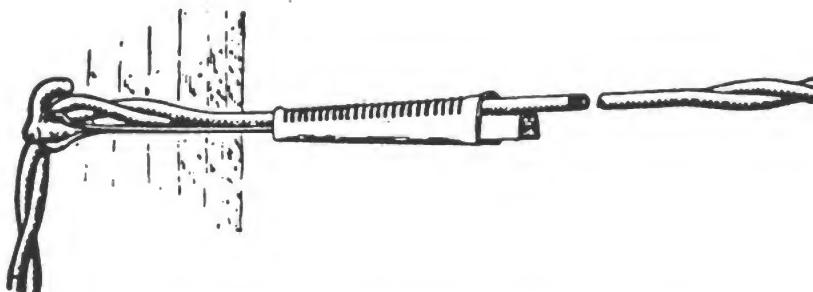
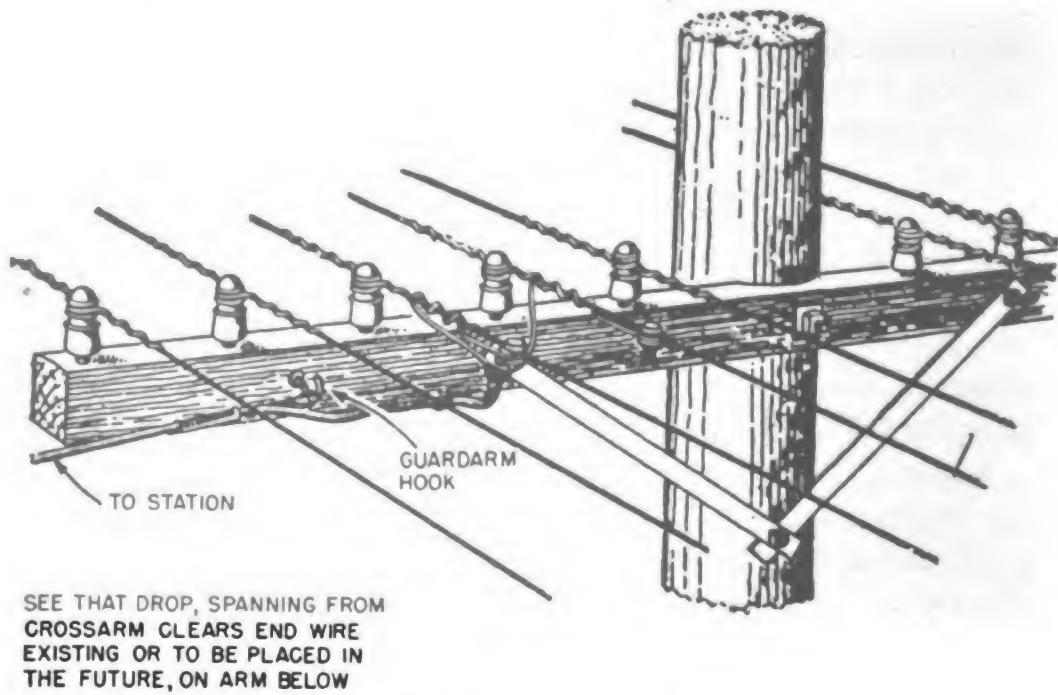
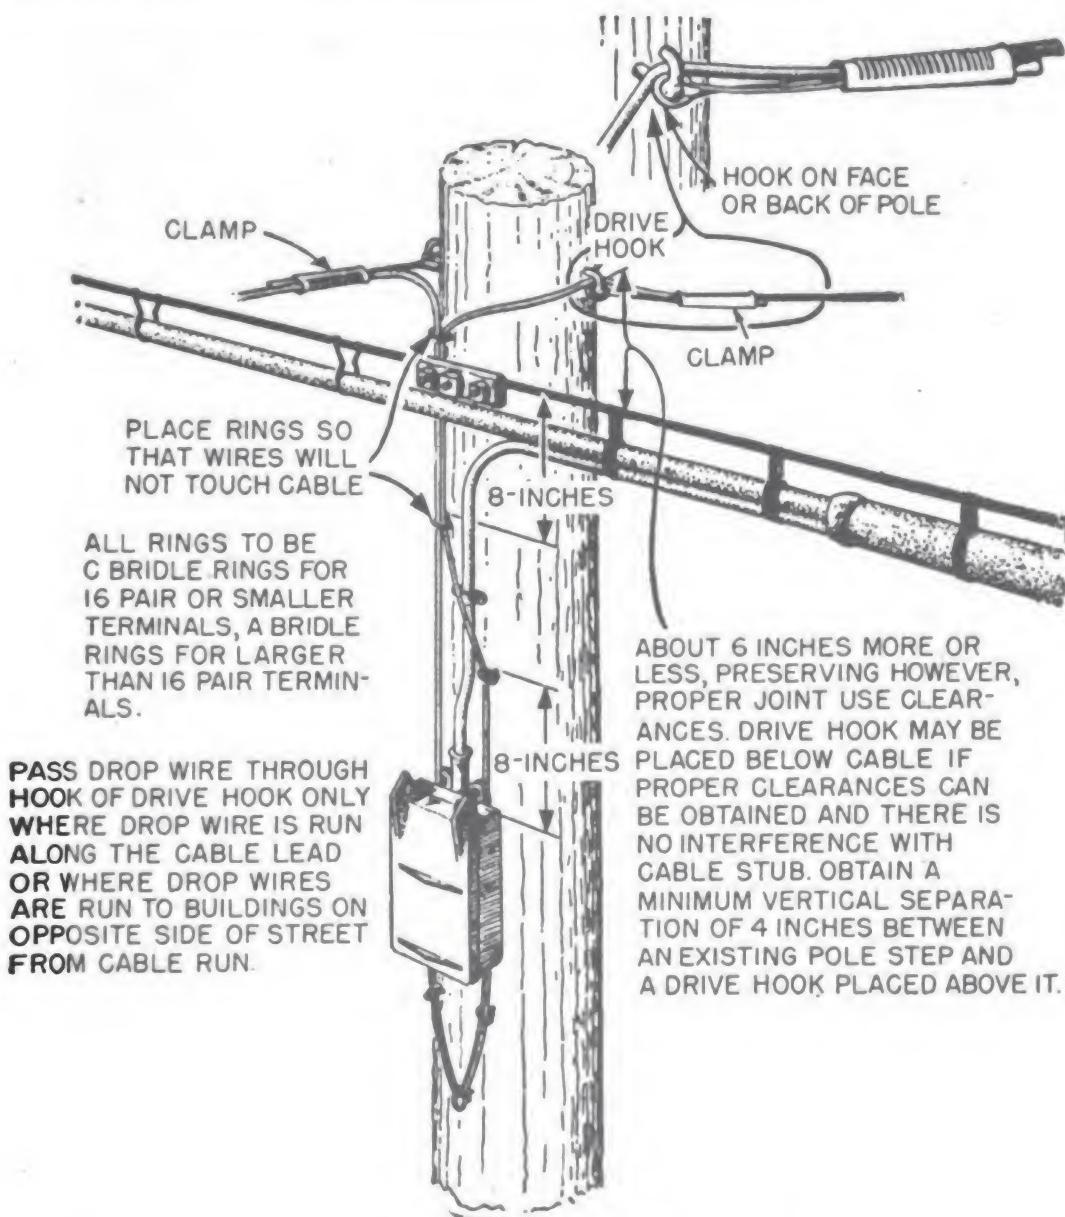

Figure 318.—Drop-wire clamp installation.
Figure 319.—Open-wire connection.
Figure 320.—Drop wire runs from a terminal box.
Figures 319 and 320 will give you a pretty clear picture of the clamp installation. However, for a close-up view suppose you look at figure 318. Notice that the clamp consists of two
1. Place a hook attachment at the jumping-off point. A **DRIVE HOOK** is used if the drop wire leaves the side of the pole (figure 320). Where the drop wire takes off from the crossarm, use a **GUARDARM HOOK** (figure 319).
The drop wire has been secured to the cable clamp. Now you're all set to train the wire back to the connecting point in the main run. Where open wire is concerned, the drop wire is trained under the crossarm to the connecting point. Figure 319 shows how this is done. Bridle rings may be used to support the drop wire along the crossarm. The bridle ring has an open spiral eye. This permits the drop wire to be slipped into the ring, after it has been screwed into the crossarm.
of the pole to the connecting point. Bridle rings are used to support the drop wires on the pole as shown in figure 320. Notice the arrangement of the rings just below the box. Can you guess why the drop wires are trained in this fashion before they enter the terminal box? Just in case you can't, here's